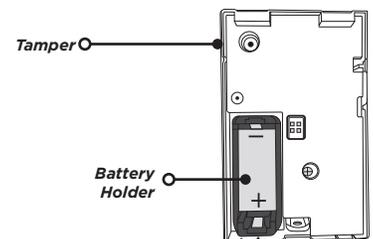

Figure 3: 1128INT Battery Location
2. Observing polarity, place the battery in the holder. Press it into place. See Figure 3 for the battery location.